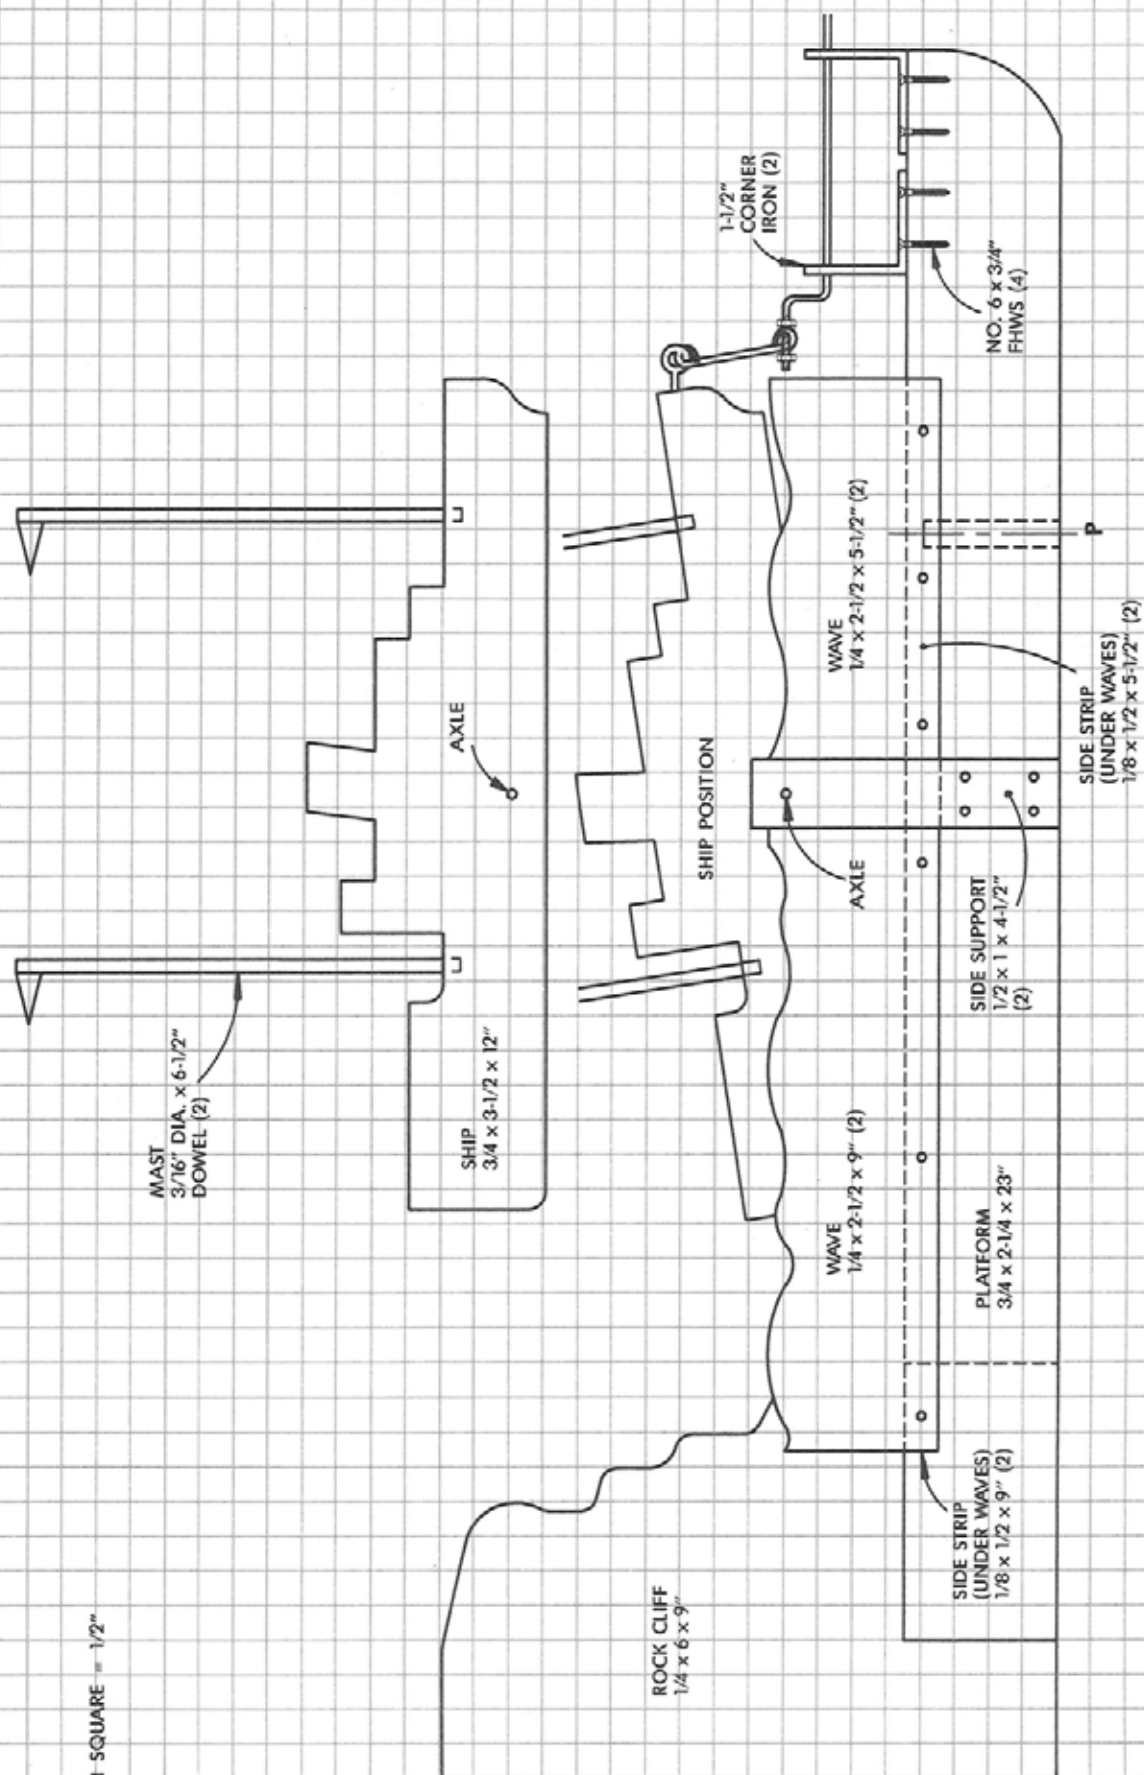

Figure 4-27. Plan for Ship on the Rocks whirlingig.
1. Cut out the platform 1 in. shorter than standard (Fig. 4-27). Then mark where the objects will be located. Cut the 1/4 in. slot for the tail to 4 in. from the rear of the platform. Drill a 3/8 in. hole for the pivot socket 7 in. from the front. Cut out the tail and glue/brad it in place. Insert the tension pin or metal liner and cap in the pivot socket. Attach the corner irons.